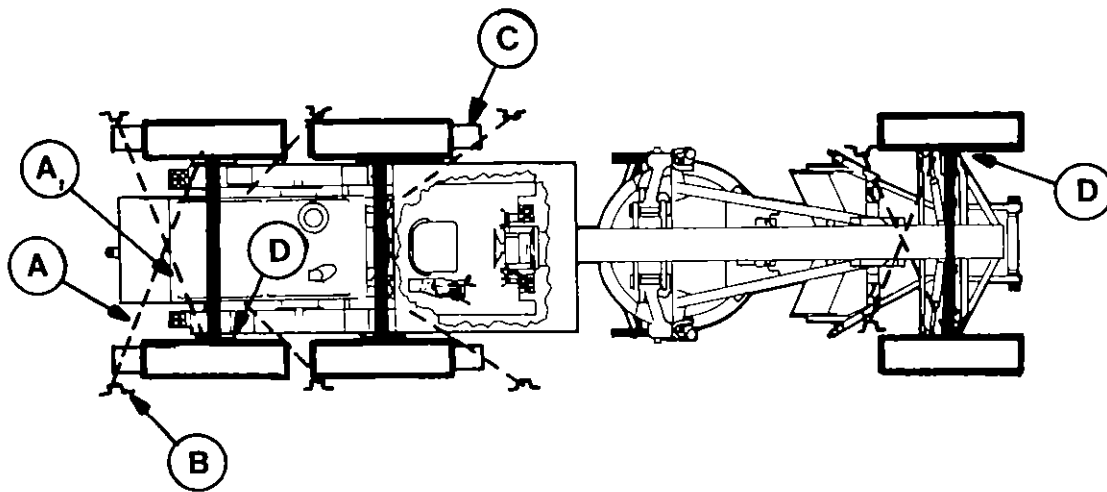
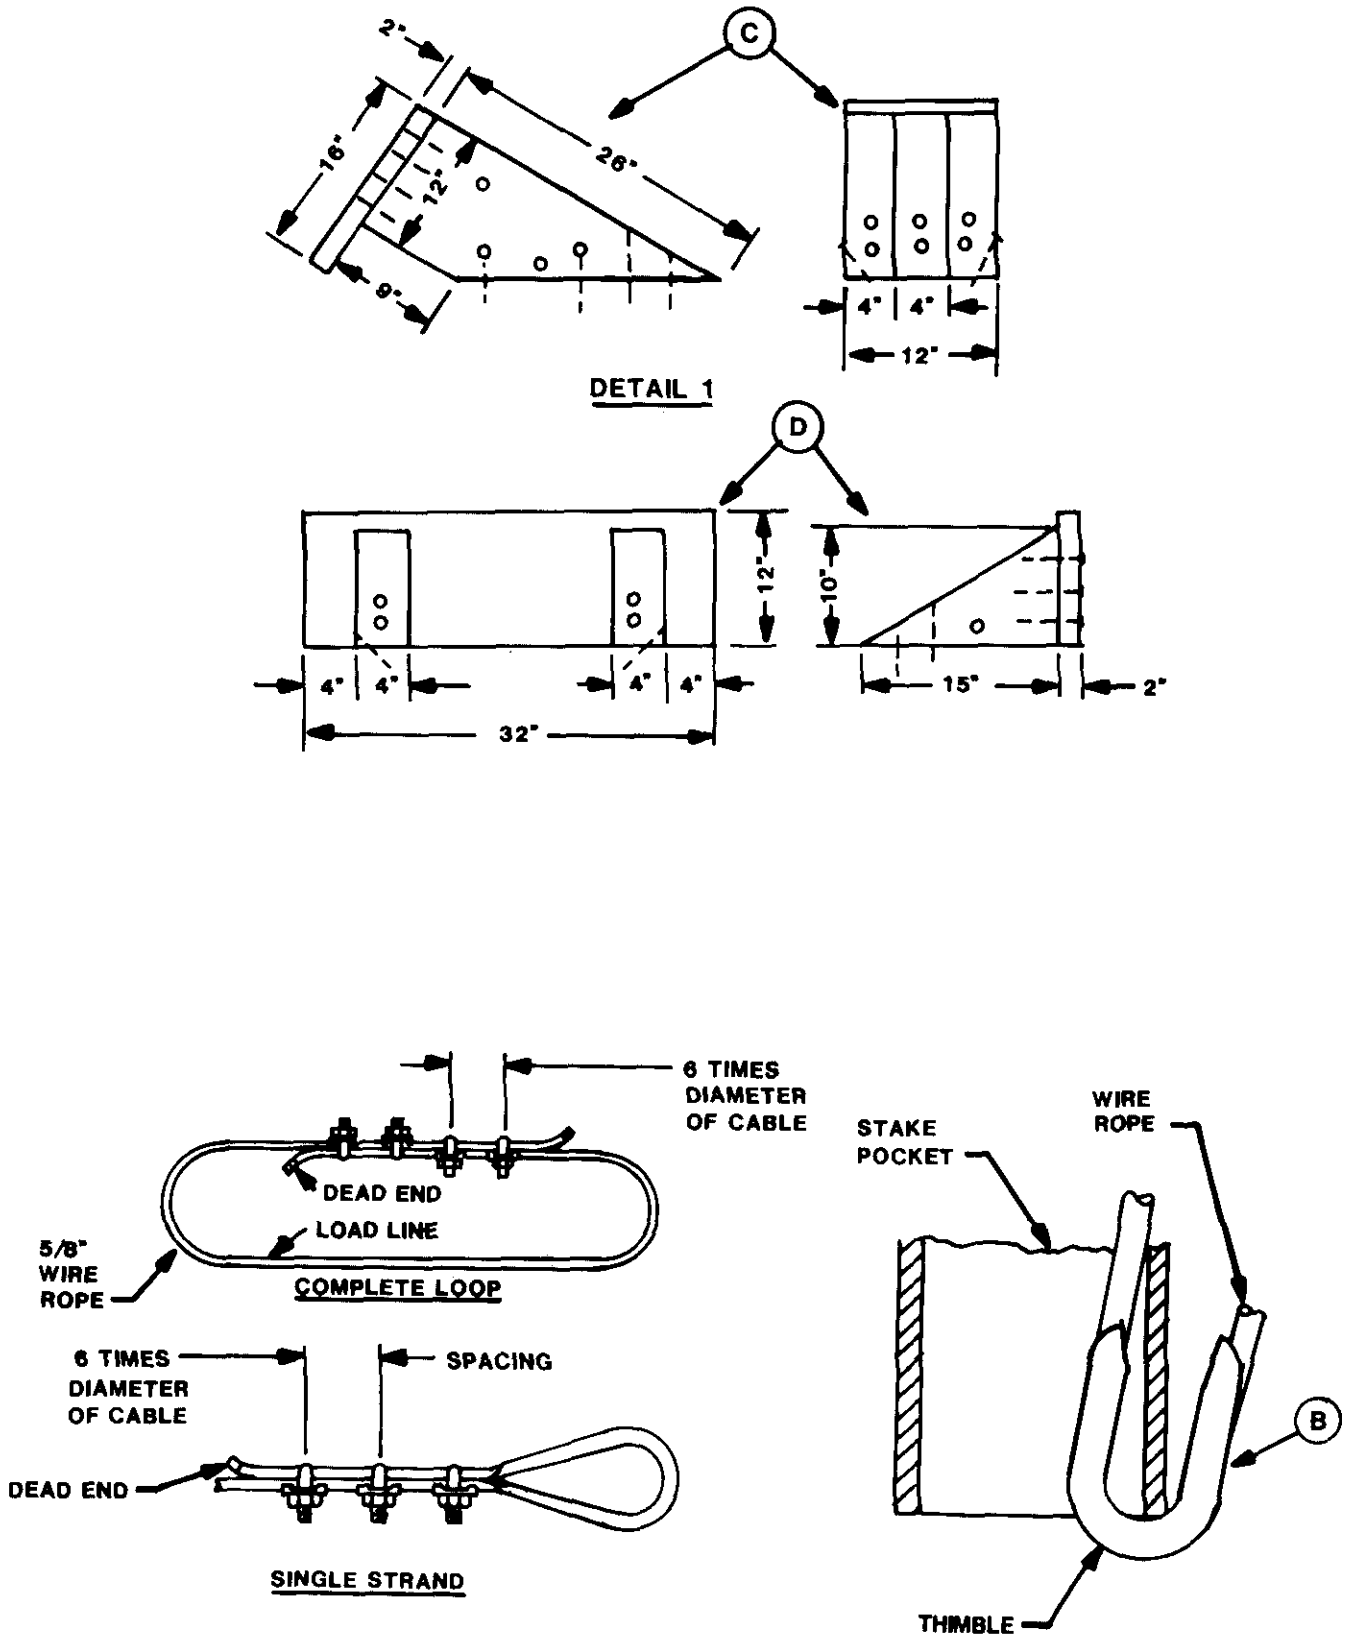

Figure 5-2. Blocking, chocking, and tiedown diagram for the model 130G grader on the M870 semitrailer.
Figure 5-3. Details of blocking, bracing, and tiedowns for highway transport of the model 130G grader.
(4) Blocking, bracing, shoring, and tiedowns are described in figure 5-2 and listed in table 5-2. This material is furnished by the shipper.
(5) A tiedown diagram compatible with standard loading practices that will offer adequate restraint against the forces encountered during movements at normal speeds is provided in figure 5-2. Details of the blocking, bracing, and tiedowns are given in figure 5-3.
(6) The turning radius of the tractor trailer combination is 89.5 feet curb to curb.